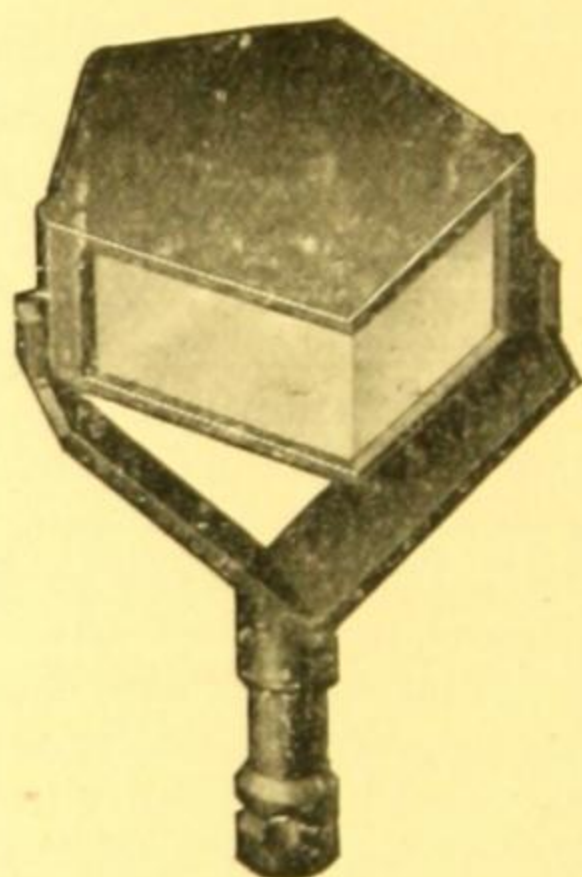

Fig. 107.
- SM 372.—**Prismatic Optical Square**, consisting of a five sided pentagonal prism mounted in metal with folding handle. This optical square is easier to manipulate than the triangular prism No. 371. It has a wider field of view and gives a more distinct and better illuminated, immovable image. A plummet can, when required, be attached to the handle. Fig. 107   £1 5 0